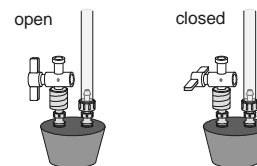

Figure 4
- d. After 30 seconds, close the two-way valve above the rubber stopper as shown in Figure 4—do this by turning the white valve handle so it is perpendicular with the valve stem itself.
- a. Open the 2-way valve above the rubber stopper—do this by turning the white valve handle so it is aligned with the valve stem (see Figure 4).